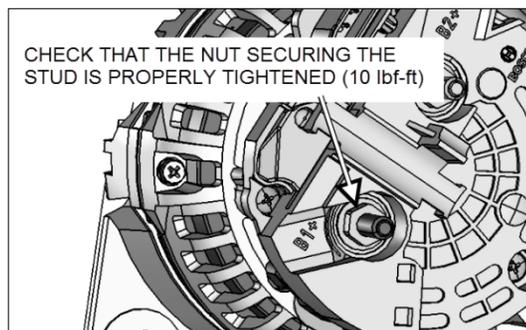

FIGURE 9
11. Before installing the power cable, make sure that the nut that secures the alternator stud is properly tightened (FIGURE 9).